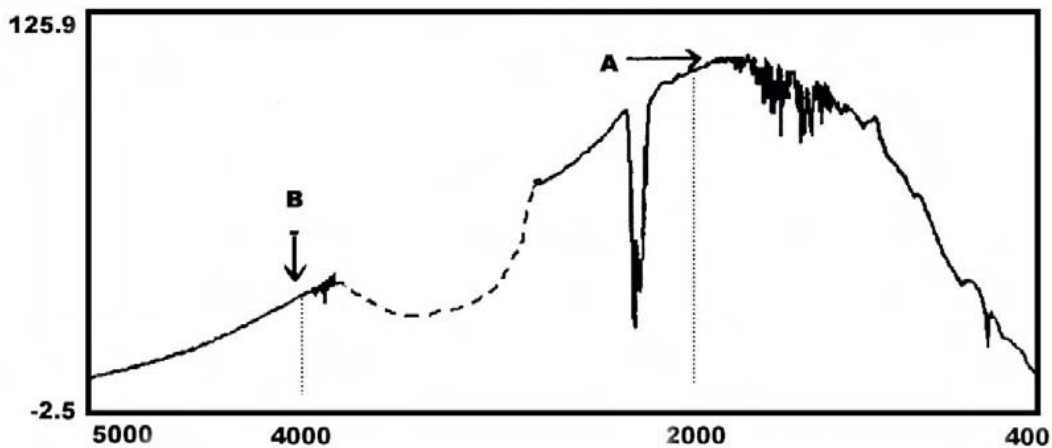

Figure 79. Problem Background Spectrum
4. The spectrum in Figure 79 has a dip in the region around 3000 to 3500cm⁻¹. This indicates that there is a chemical coating on the gas cell. It needs to be cleaned or replaced.